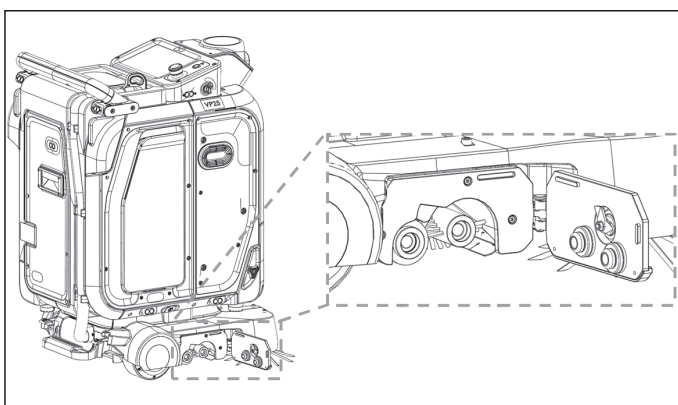

Figure 73
2. Pull out the brush (**Fig. 73**) and remove any entangled hair or impurities from the bristles and roller.